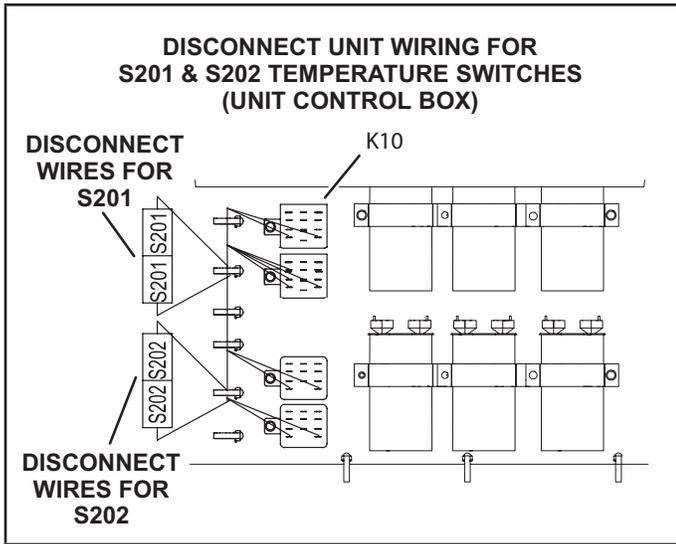

FIGURE 3
- 2 - Disconnect male and female terminals from wires marked "S201" and "S202" near K10 relay. See FIGURE 3.